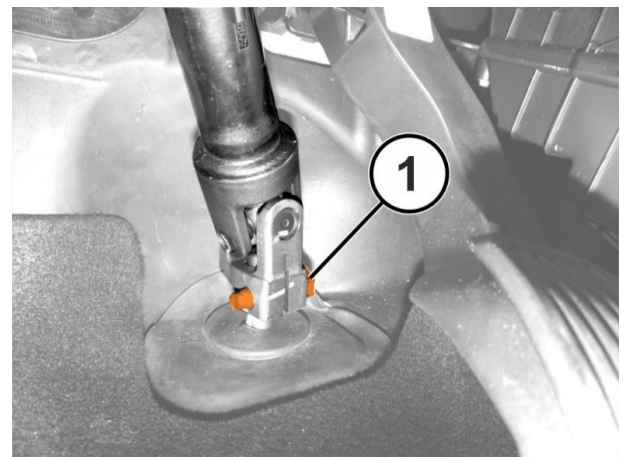

Figure 1 – Intermediate Shaft Bolt
2. Unscrew the intermediate shaft universal joint bolt (1) and discard it (Figure 1).
8. Connect the intermediate shaft to the steering box pinion and tighten the **NEW** pinch bolt (1) to 55 N·m (41 ft. lbs.) (Figure 1).